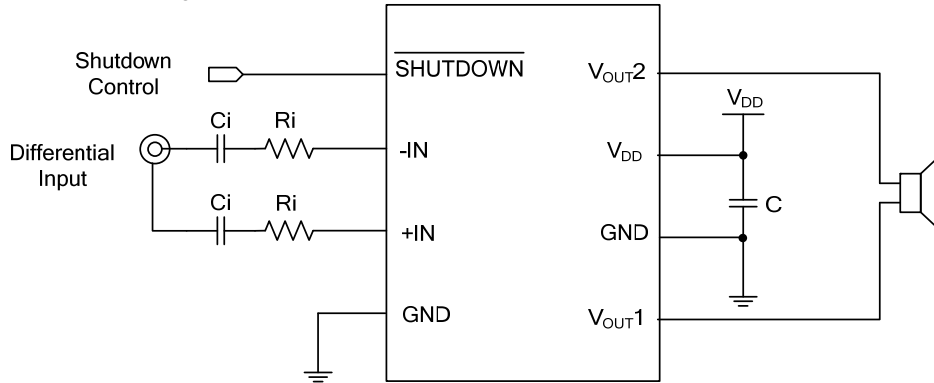

Fig. 4 Differential Input Configuration with capacitors
We recommend an external resistor  $R_i$  of the error within 1%, and the resistance should be close to **M4670** input pins to keep two symmetrical inputs, which will help improve the **M4670** noise suppression due to the good CMRR of the **M4670**. Noise coupled onto input traces which are physically close to each other will be common mode and easily rejected by the **M4670**. Input capacitors may be needed for some applications or when the source is single-ended (Fig. 4, 6). Input capacitors are needed to block any DC voltage at the source so that the DC voltage seen between the input terminals of the **M4670** is 0V. Input capacitors create a high-pass filter with the input resistors,  $R_i$ . The -3dB point of the high-pass filter is found using Equation (3) below.
Input capacitors can be used in a differential configuration as shown in Fig. 4. Equation (3) above is used to determine the value of the  $C_i$  capacitors for a desired frequency, Equation (2) above is used to determine the value of the  $R_i$  resistors for a desired gain.